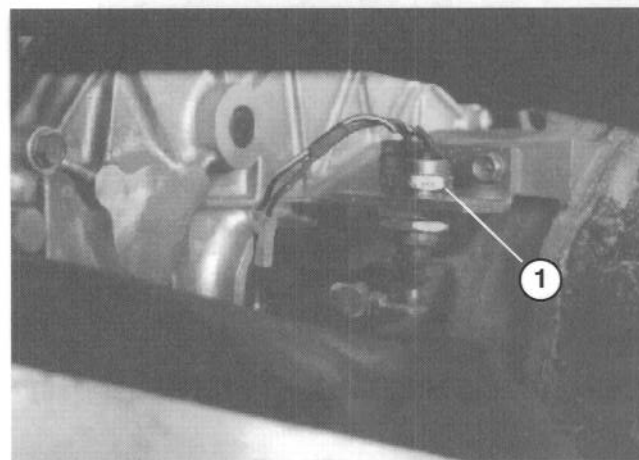

Figure 51
7. Recheck clutch safety switch adjustment (Fig. 51). Engine must not crank unless clutch pedal is $.90" \pm .12"$ from floor. If an adjustment is required, loosen switch jam nuts and adjust up or down.